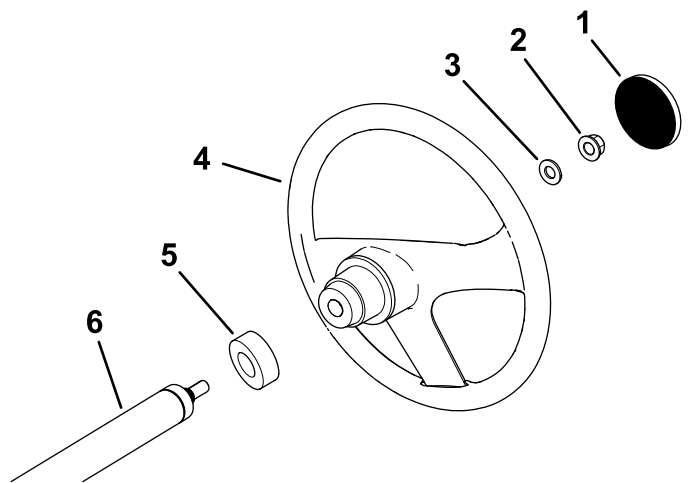

Figure 3
- If the cover is installed, remove it from the hub of the steering wheel (Figure 3).
- Remove the locknut (1/2 inch) from the steering shaft (Figure 3).
- Slide the steering wheel, dust cover, and washer (1/2 inch) onto the steering shaft (Figure 3).
- Install the cover on the steering wheel (Figure 3).